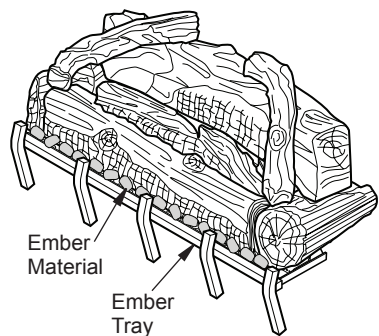

Figure 47 - Applying Ember Material
5. Break apart about quarter sized pieces and place about a single layer along the full length of the ember tray to hide the bottom edge of the base log (see Figure 47).